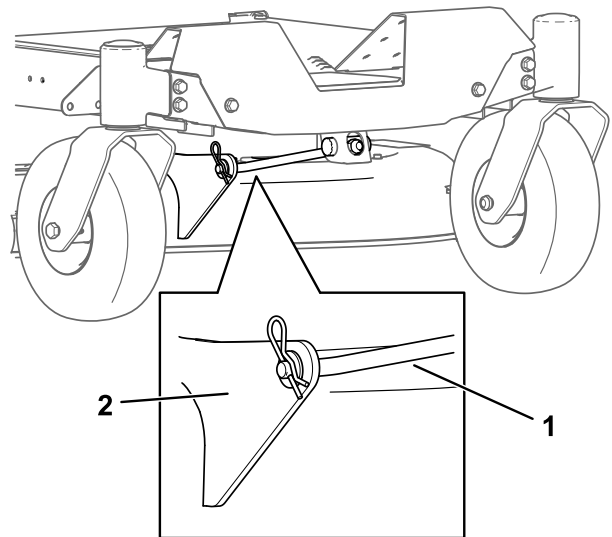

Figure 71
5. Remove the hairpin cotter from the front support rod, and remove the rod from the deck bracket (Figure 71).
8. Attach the front support rod to the mower deck with the clevis pin and hairpin cotter (Figure 71).